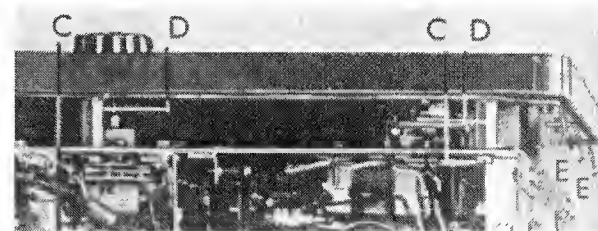

Fig. 7. Removing the text plate
- c. Loosen the 6 bolts "C" (Fig. 7).
- b. Detach the text plate from this panel by removing the 6 distance pieces "D" and the 6 bolts and springs "E" (Fig. 7).